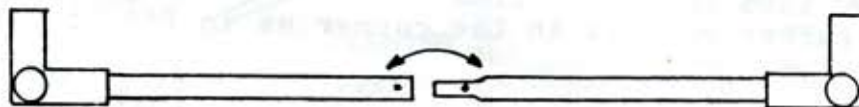

Fig. 1
1. Locate the 4 corner pieces and join the male to the female and place on the front and back lines of your space. Fig. 1. DO NOT PUT LOCK PINS IN AT THIS TIME.